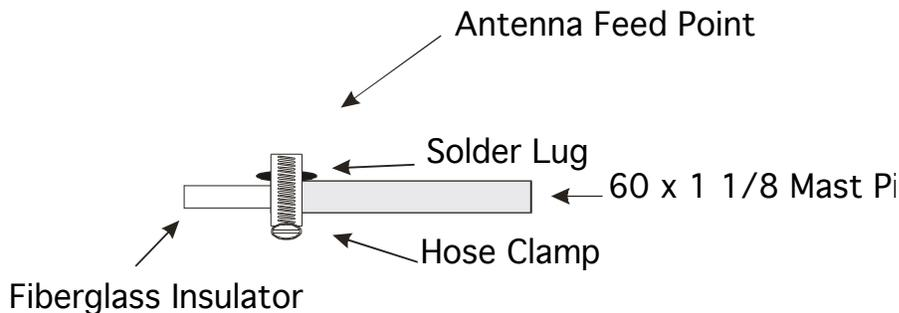

Figure 2
- [] 9. Now the hollow fiberglass insulator should be placed approximately 3 1/2" into the 60" x 1 1/8" aluminum tubing. See Figure 2.
- [] 10. Place one of the hose clamps around the aluminum tubing and snug the clamp using a 5/16" nut driver . The center conductor of the coax will be connected to the antenna using a solder lug placed under the clamp. Refer to figure 2.
The antenna may be quickly removed to be hidden from view. This is easily accomplished by loosening the hose clamp at the base of the antenna shown in Figure 2. Carefully pick up the antenna mast. Be sure to watch for overhead tree limbs and other objects that could come in contact with the antenna during removal. These objects could cause the antenna to become unbalanced and fall, resulting in personal injury and damage to the antenna. Store the antenna in a safe place to prevent damage.